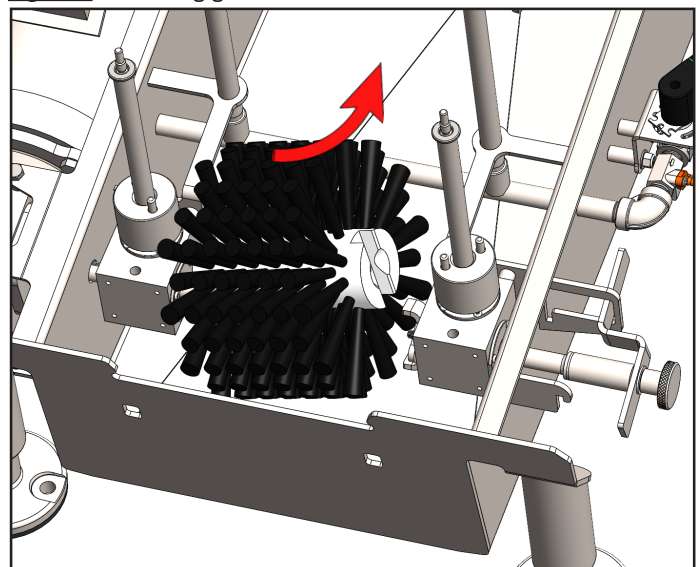

Fig. 8.3: Removing sole brush
7. Lift the sole brush out of the tub by grabbing the open end and lifting up to clear the opposing drive shaft anchor [Figure 8.3].